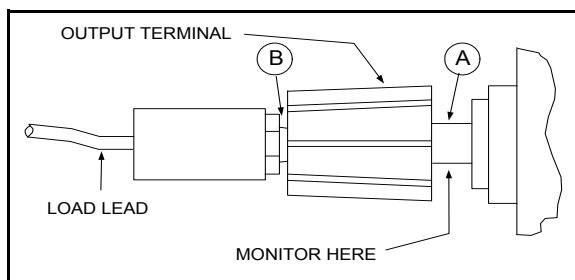

Figure A-2. Front Panel Terminal Connections
When performance measurements are made at the front terminals (Figure A-2) the load should be plugged into the front of the terminals at (B) while the monitoring device is connected to a small lead or bus wire inserted through the hole in the neck of the binding post at (A). Connecting the measuring device at (B) would result in a measurement that includes the resistance of the leads between the output terminals and the point of connection.